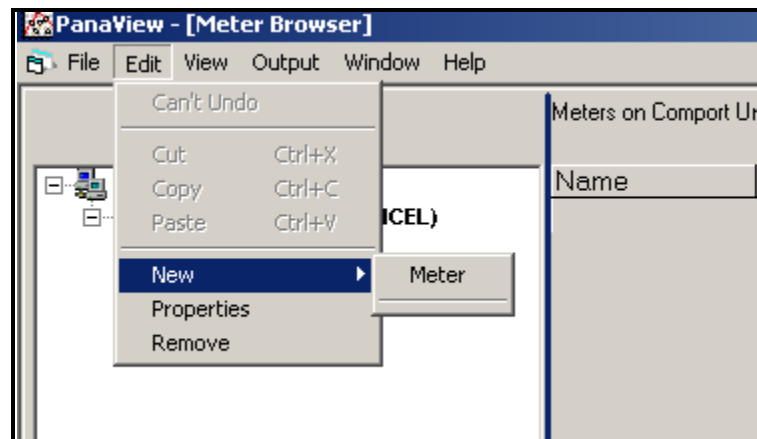

Figure 20: “*New*” Option in the “*Edit*” Menu
2. Click on the “*New*” option in the “*Edit*” menu (see Figure 20 below).